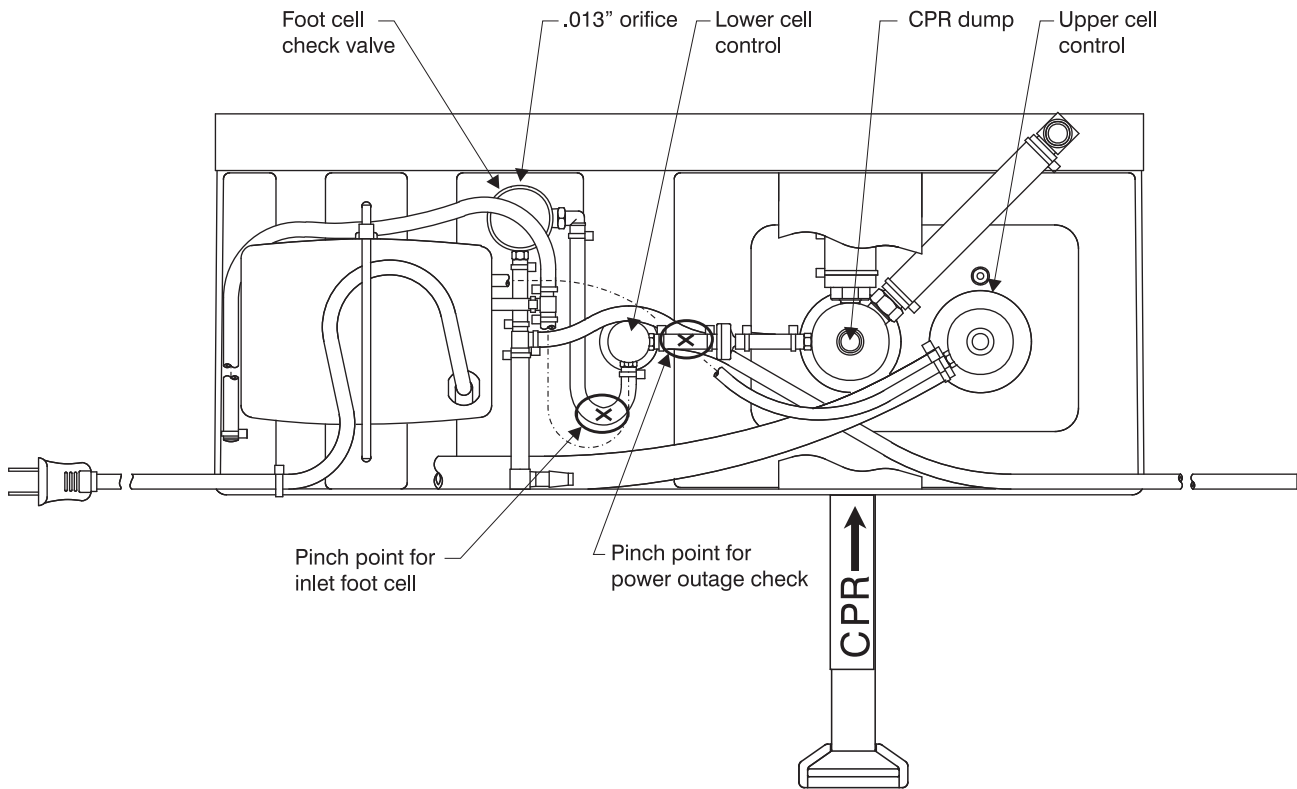

Figure 21—Pinch at "X" with needle nose pliers
3. Before any calibration is done on the foot cell, the 0.013" diameter orifice in the valve should be checked to see if it is free of obstructions. Using the 8" needle nose pliers, pinch off the inlet hose to the foot cell valve as shown (fig. 21, p. 32). If the orifice is open, the manometer pressure should drop. If the pressure doesn't drop, the orifice has to be cleaned or the valve replaced.
Plug in the pump and bring the panel assembly back up to pressure. Pinch off the hose labelled for the power outage check shown in figure 21.